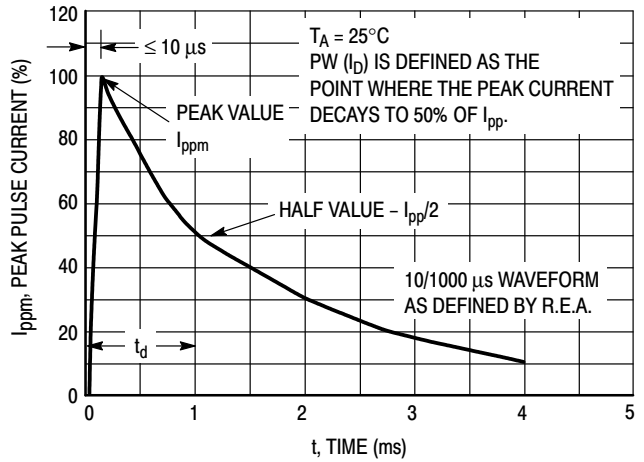
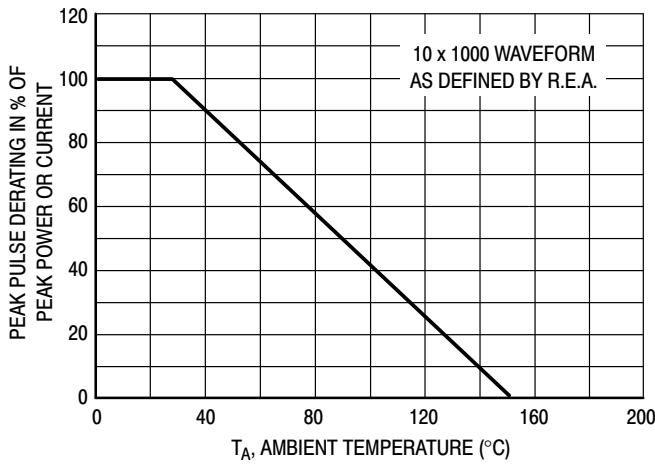

Figure 2. Pulse Waveform
Figure 3. Pulse Derating Curve
8. Surge current waveform per Figure 2 and derate per Figure 3